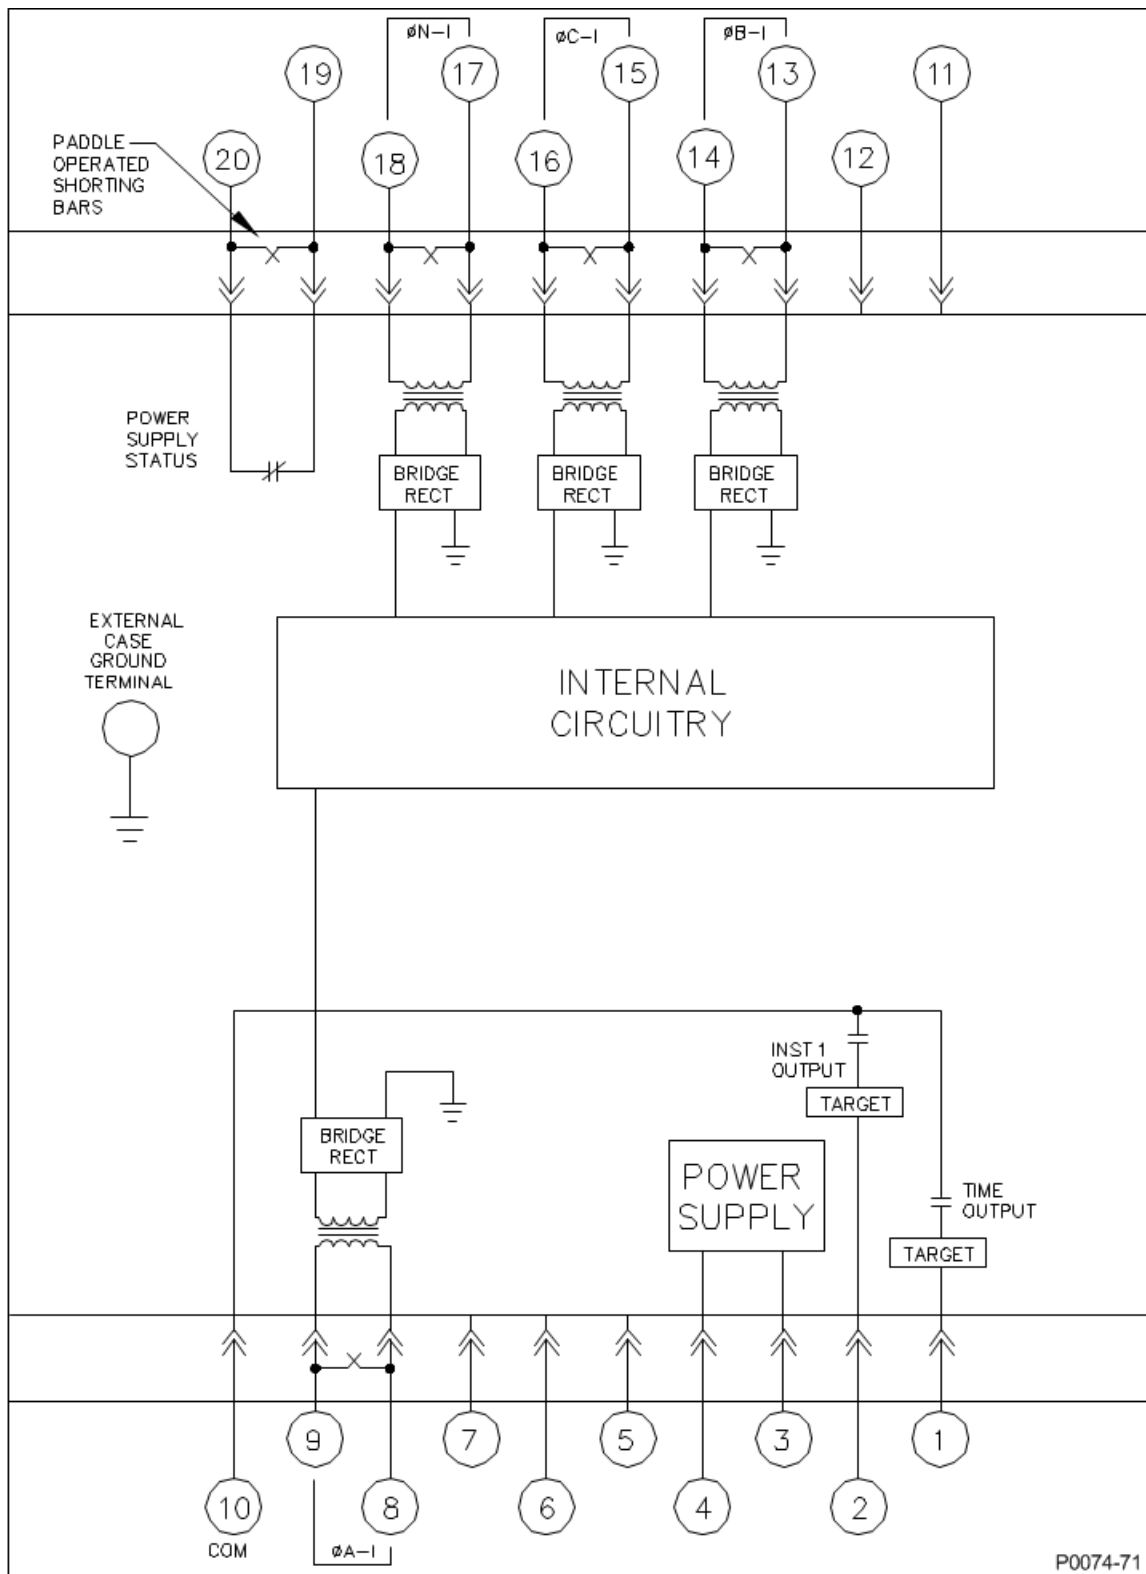

Figure 4-20. Typical Internal Diagram, Sensing Input Type H or V
- Figure 4-20: Typical Internal Diagram, Sensing Input Type H or V